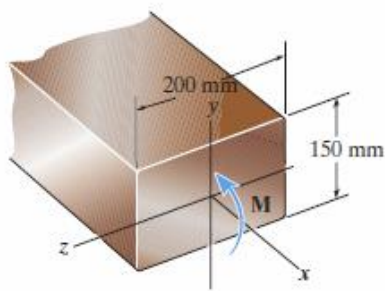

Fig. 4
4. A member having the dimensions shown in Fig. 4, is used to resist an internal bending moment of  $M = 90 \text{ kNm}$ . Determine the maximum stress in the member if the moment is applied (a) about the  $z$  axis (b) about the  $y$  axis. Sketch the stress distribution for each case.